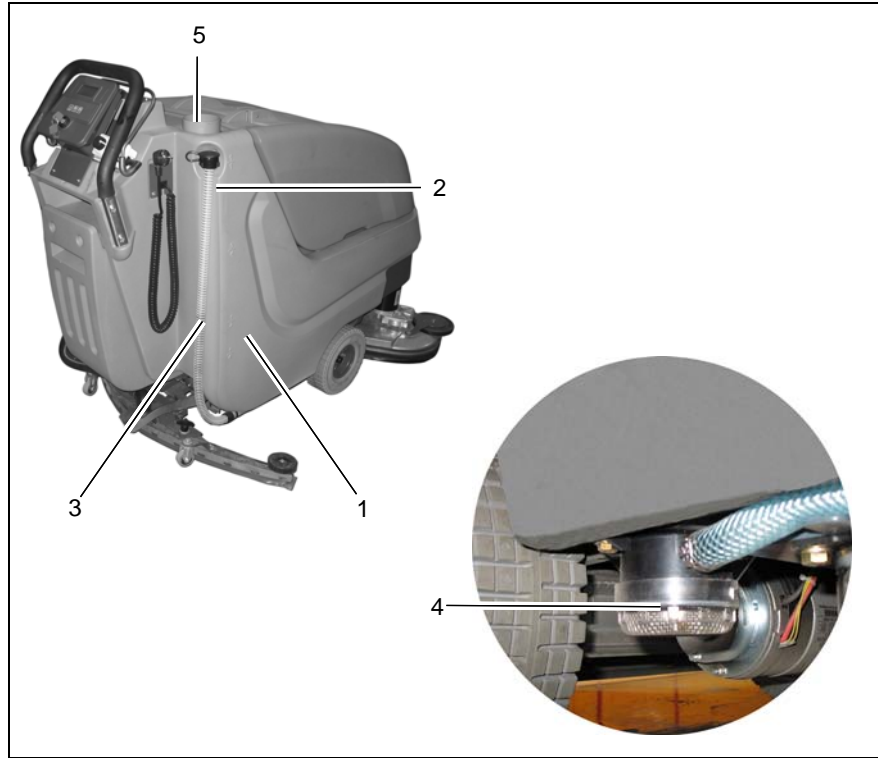

Fig.7
Fill solution tank (Fig. 7/1) before work or as required. Park vehicle on level ground. Open tank lid (Fig. 7/5) and fill tank up to the maximum (1/1 marker) (Fig. 7/2).
Alternatively, filling of the machine via quick coupling (Fig. 7/6) is available. Before doing so, connect the filling hose of the dosage unit and the quick coupling. The floater valve automatically closes after the maximum filling level has been attained.
Park vehicle such that the fill level hose (Fig. 7/3) is located above the drain aperture in the floor. Take fill level hose from holder and remove lid.
Check solution filter (Fig. 7/4) at weekly intervals and clean or replace if required.
1. Empty solution tank (Fig. 7/1), see paragraph 6.5.2.